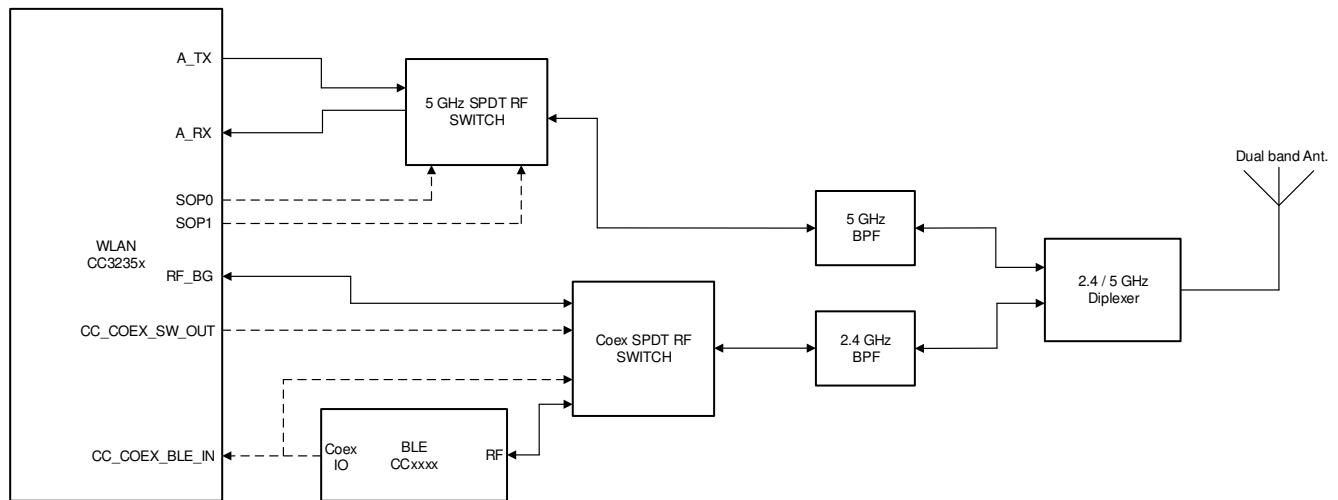

Figure 10-2. Single Antenna Coexistence Solution with 5 GHz Wi-Fi
- 5 GHz Wi-Fi band (see Figure 10-2)
Figure 10-2 shows the single antenna implementation of a complete Bluetooth® low energy and WLAN coexistence network with the WLAN operating on either a 2.4- or a 5 GHz band. The SOP lines control the 5 GHz switch. The Coex switch is controlled by a GPIO signal from the BLE device and a GPIO signal from the CC3235x device.